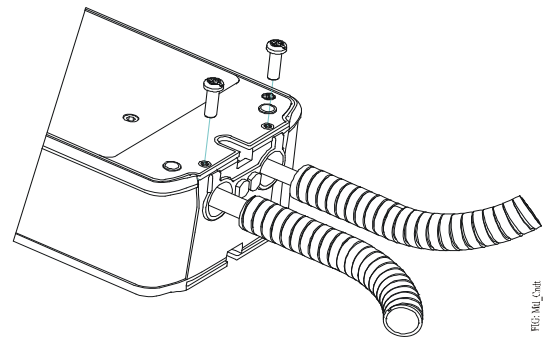

Figure 22: Adding Flexible Metal Conduit
2. Push the conduit into the holes in the actuator and secure it with the supplied 10-32 x 9/16 in. screws, as illustrated in Figure 22. The product label marks the position of holes for the screws. Drive the screws through the product label in the marked positions. Drive the screwhead flush with the plate to secure the conduit.